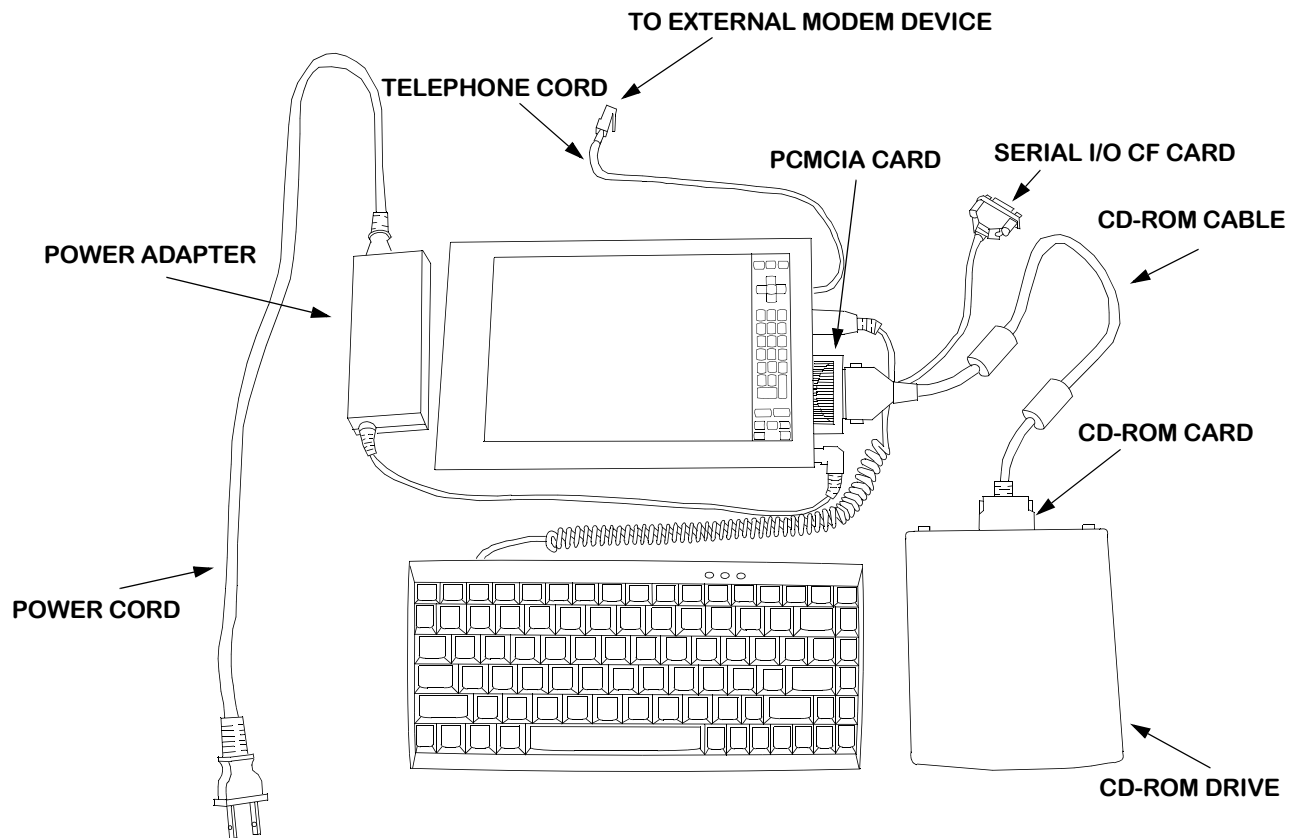

Figure 7 Pen Tablet without Slip Case/Mini-Dock Station
- a. Use **Figure 7** as a guide and perform system setup.